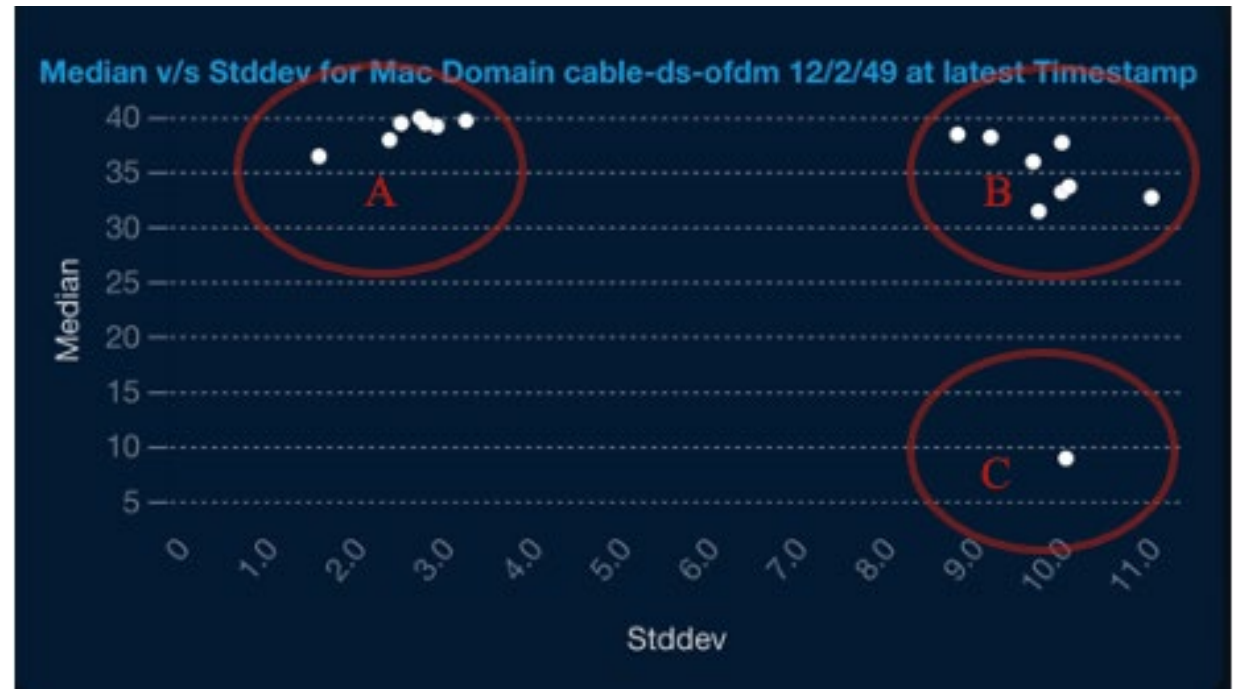

Figure 7 – 1.0GHz to 1.2 GHz Spectrum
- Figure 7 illustrates challenges to a high split network with OFDM on 1.0 GHz to 1.2 GHz.
- The most salient pattern is three distinct clusters seen in Figure 7.